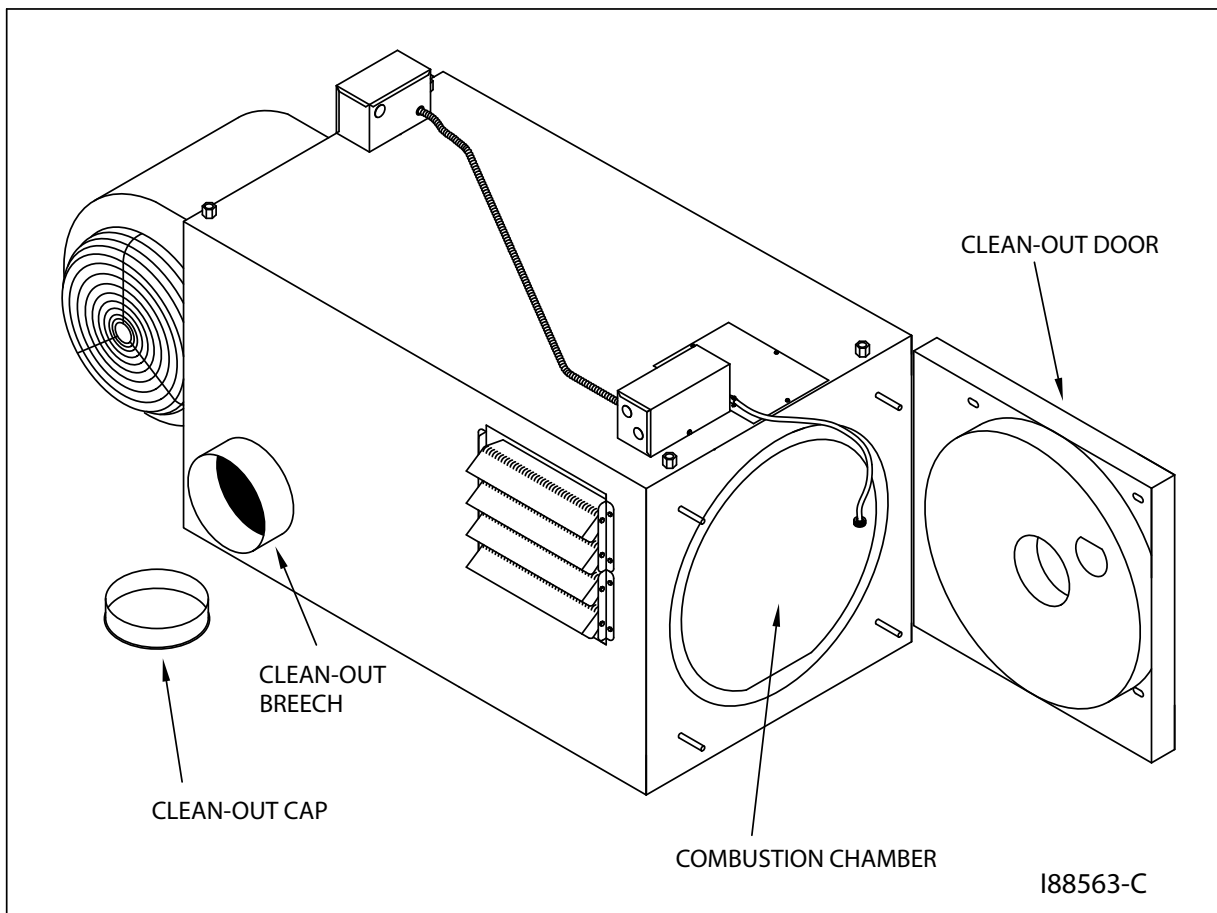

Figure 9E - Accessing the Combustion Chamber for Cleaning
3. Clean the ash from the combustion chamber (see Figure 9E):